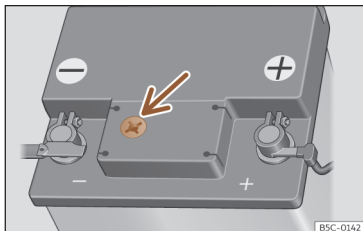

Fig. 201 Sight glass on the top of the 12 volt battery (schematic representation).
- Check the colour display in the sight glass on the top of the battery >>> **Fig. 201**.